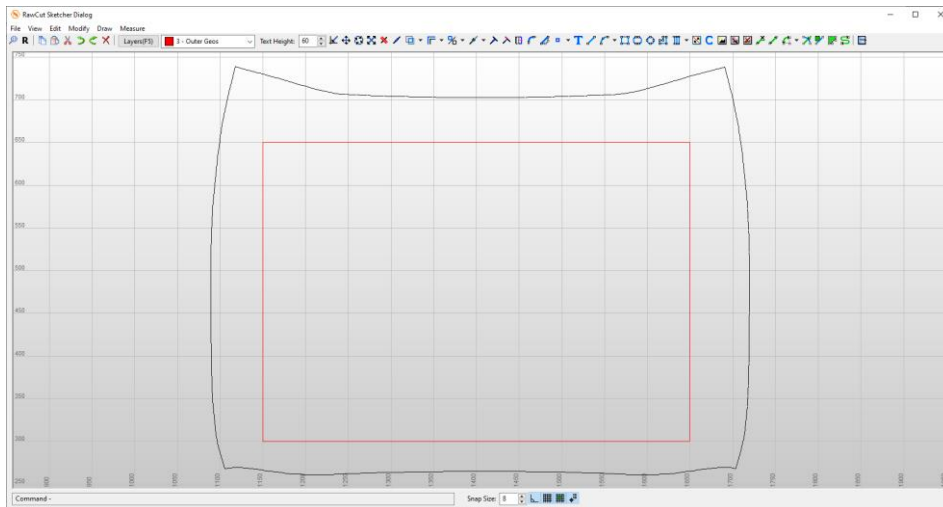

Figure 404
9. Inside the RawCut Sketcher Dialog you can do basically everything you want. You can even delete or deactivate all existing geometries and just add a rectangle geometry on layer 3 as shown in Figure 404.